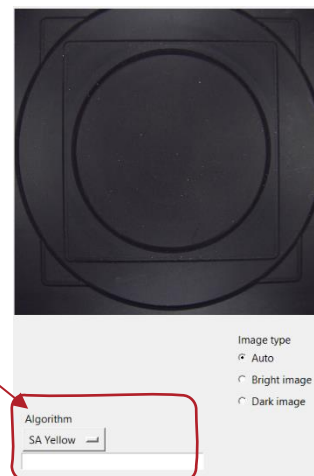

Figure 4 – PD-100 Program
1. The cursor is placed in Journal ID, see **1** in Figure 4, if not press **F4** (some PC's Fn+F4) and read the barcode (if available) of the AST agar plate with the scanner.
4. The PETRIDISH TYPE shows Round 90 [mm], see **2** in Figure 4. Currently it is only possible to measure round 90 mm plates. Other sizes will be implemented later.
6. Click the START button, see **3** in Figure 4, or press **F5** (some PC's Fn+F5).